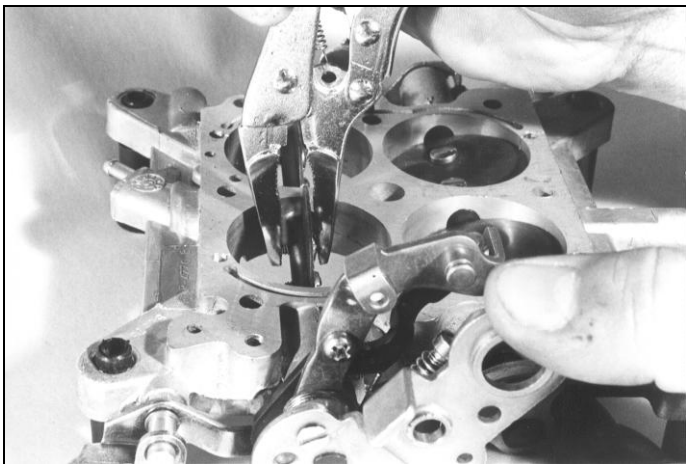
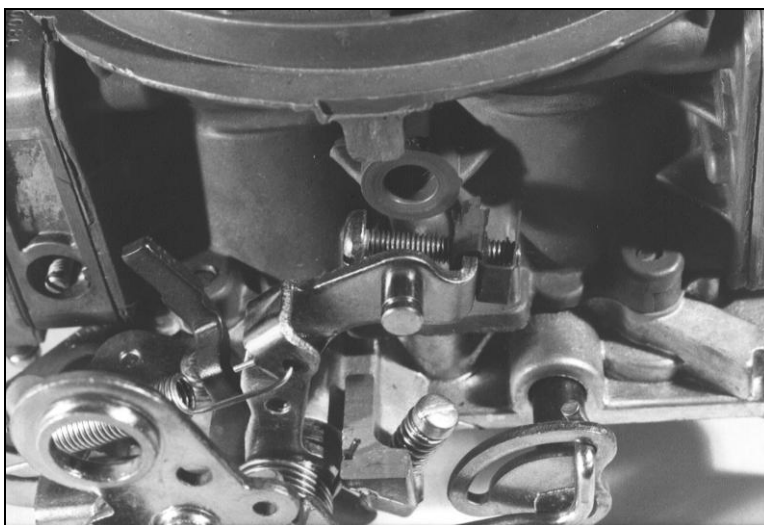

FIGURE 9
FIGURE 10
7. Making sure that there is no binding in the throttle shaft, you will now restake the throttle plate screws. See Figure 9. Use a pair of "Duck Billed" vise grip pliers for this procedure. Using this type of plier design will prevent damage to the throttle bore. Figure 10 shows a satisfactory pattern on the end of the screw after restaking.